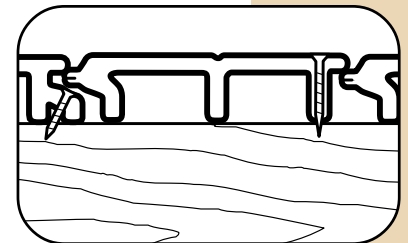

Fig. 9
- Using a 2-1/2” trim screw, fasten the replacement plank from the top (Fig. 9), allowing the screw to bury itself into the plank. TimberTech will “mushroom” at the spot where the screw is located.